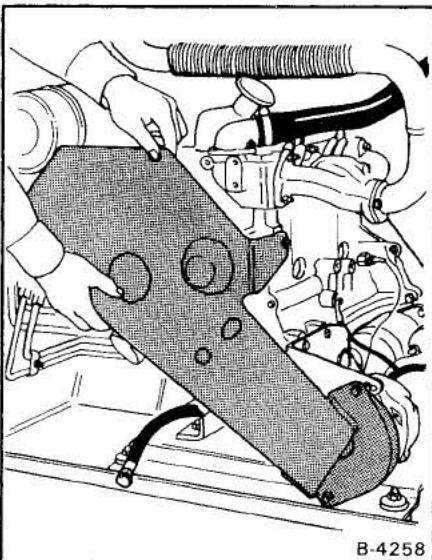

Fig. 53 Removing Belt Shield
2. Remove the belt shield (Fig. 53).